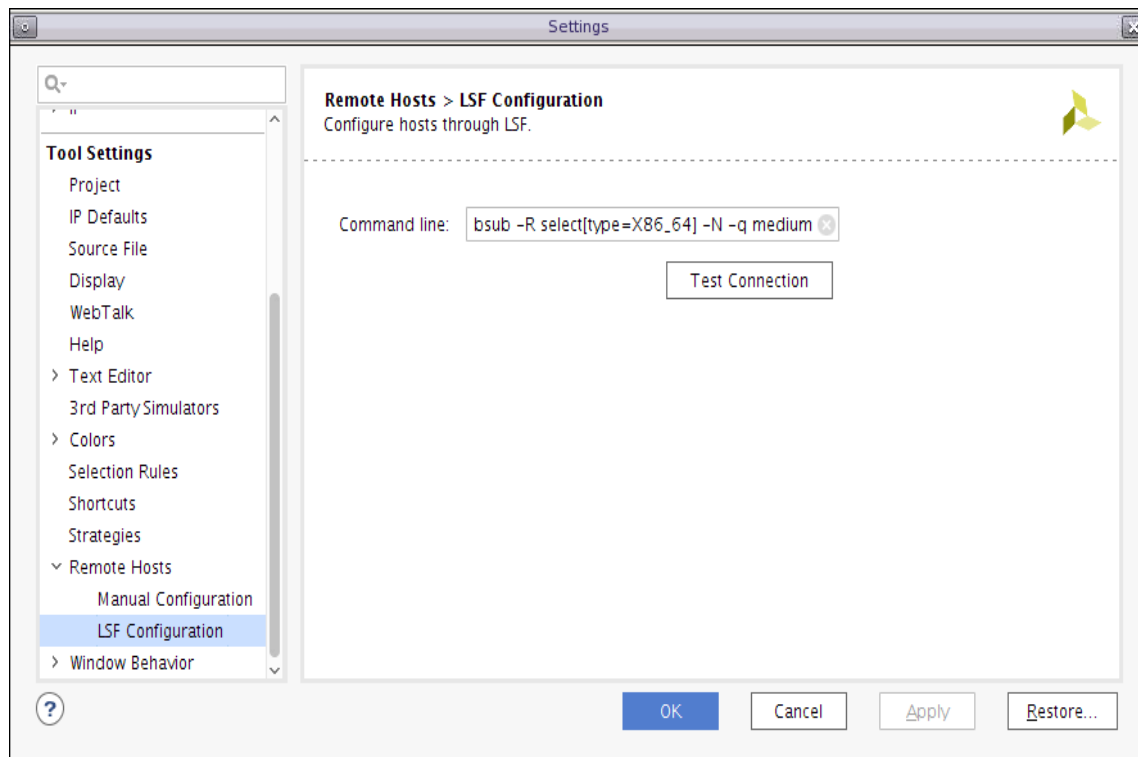

Figure A-2: Settings Dialog Box with Remote Hosts Selected
2. As shown in Figure A-2, the Settings dialog box displays, with the Remote Hosts section selected. Select the LSF Configuration.